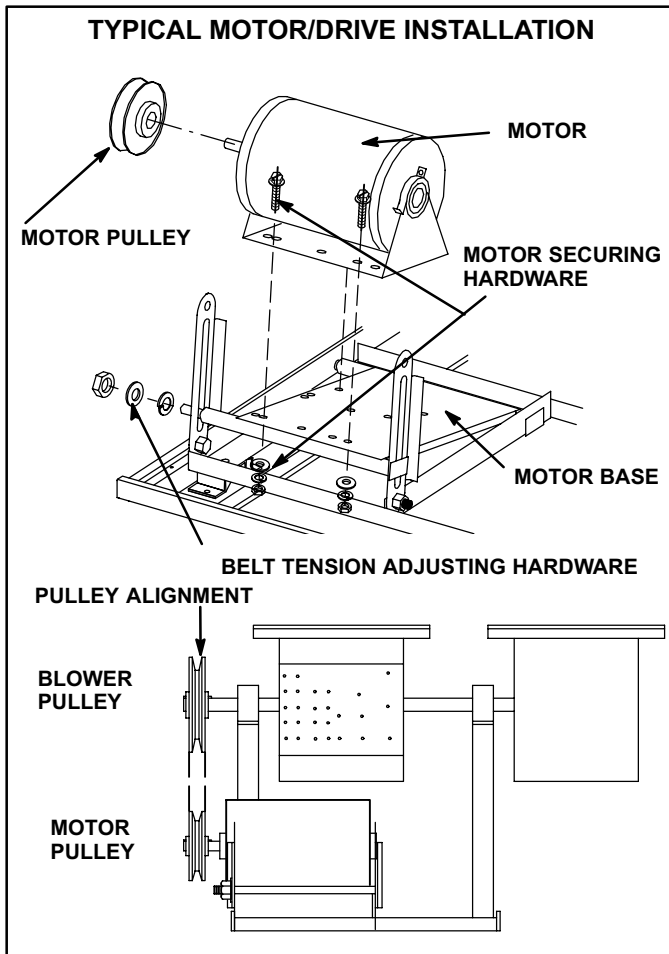

FIGURE 7
Refer to figure 7.
- 1 - Loosen belt adjusting hardware. See figure 7.